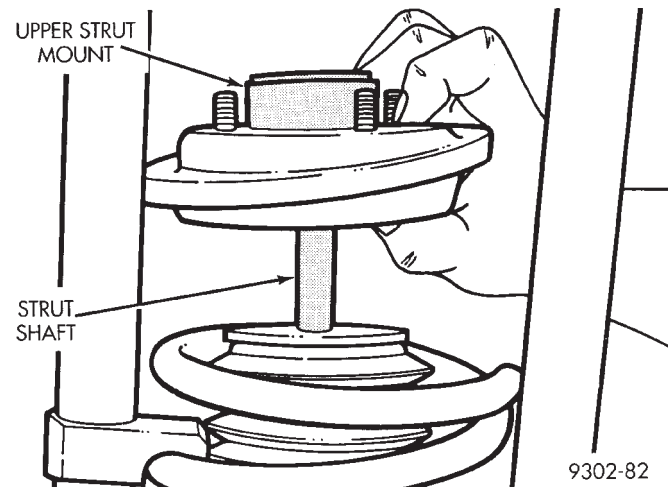

Fig. 41 Upper Strut Mount
(5) Remove the strut upper mount assembly from the strut (Fig. 41).
(5) Install the upper strut mount assembly onto the strut shaft, aligning paint marks (Fig. 41). Install the upper strut mount to strut shaft retaining nut on strut shaft.
(6) Using Strut Rod Socket, Special Tool, L-4558 and a 8 mm allen wrench to keep the strut shaft from turning, tighten the strut shaft nut to a torque of 95 N·m (70 ft. lbs.).
(7) Equally loosen the Spring Compressors, Special Tool C-4838 until spring is seated on upper strut mount and all tension is relieved from the spring compressors.
(8) Install the strut assembly back into the vehicle. Refer to Strut Assembly Removal in Servicing Rear Struts in this section of the service manual.
(9) Check and reset rear wheel TOE to specifications if required.